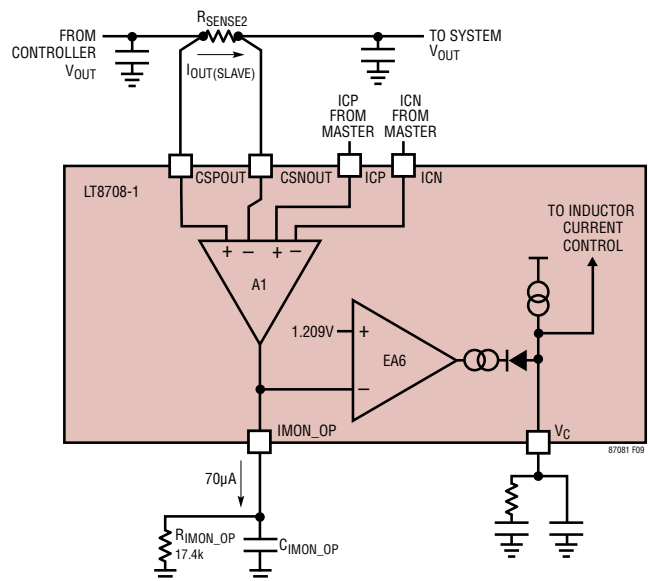

Figure 10. $I_{OUT(SLAVE)}$ Current Regulation and Monitor
Figure 10 shows the primary LT8708-1 circuits involved in the regulation of $I_{OUT(SLAVE)}$. Additional circuitry is shown in Figure 1. $I_{OUT(SLAVE)}$ is regulated by a feedback loop with ICP and ICN setting the desired current. The feedback loop involves the following sections:
- Resistor R_{SENSE2} converts the $I_{OUT(SLAVE)}$ current into a voltage that can be measured by amplifier A1. This voltage is denoted as $V_{(CSPOUT-CSNOUT)S}$ in Figure 10.
$$I_{OUT(SLAVE)} = \frac{V_{(CSPOUT-CSNOUT)S}}{R_{SENSE2}} = \frac{40mV \text{ (from Figure 10)}}{10m\Omega} = 4A$$
$$I_{OUT(SLAVE)} = \frac{V_{(CSPOUT-CSNOUT)S}}{R_{SENSE2}} = \frac{-20mV \text{ (from Figure 10)}}{10m\Omega} = -2A$$